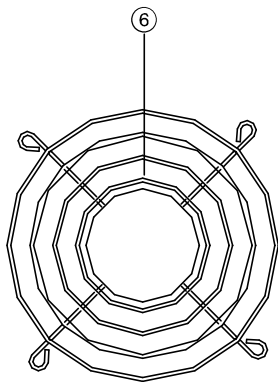

Fig. 9
- 6. Secure protective screen ⑥ (Fig. 9) into place, using the four stainless steel screws and plugs provided.
The joints in the horizontal section of the Vitodens 200-W venting system must be secured with the supplied sheet metal screws A (see Fig. 9) to prevent the system from sagging .